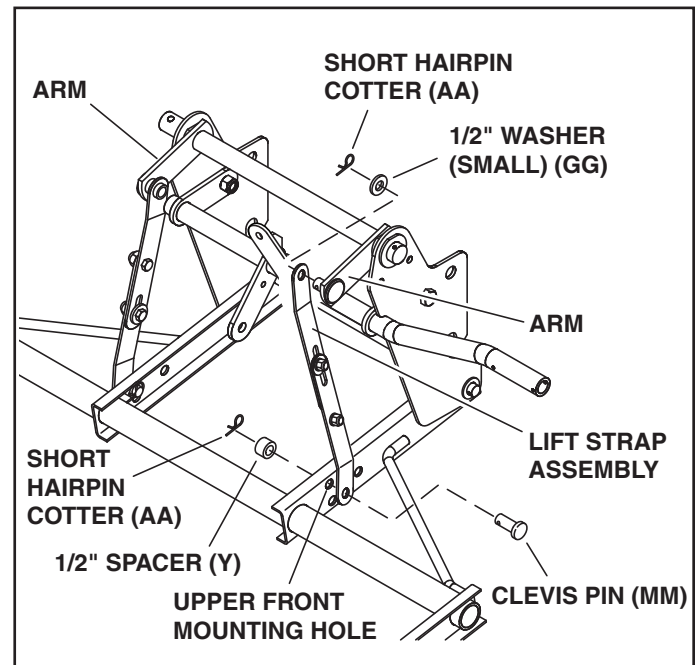

FIGURE 5
STEP 6: INSTALL LIFT STRAP ASSEMBLIES (SEE FIGURE 5)
- Turn the lift strap assemblies as shown. Install each lift strap assembly to an arm of the lift bracket assembly and then secure with a small 1/2" washer (GG) and a short hairpin cotter (AA).
- Position the lower end of each lift strap assembly to the outside of the lift frame. Fasten to the upper front holes in the lift frame using a clevis pin (MM), 1/2" long spacer (Y) and short hairpin cotter (AA) for each assembly.